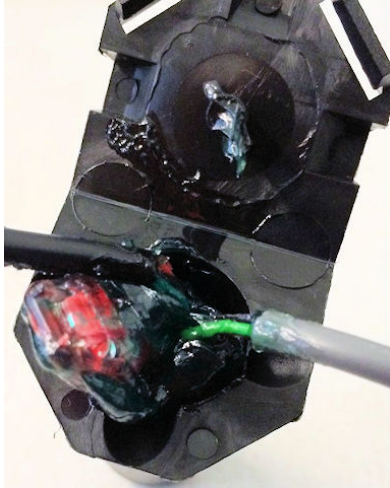

Figure 41 – Splice Tube
1. Take all three connected Scotchloks and push into the splice tube until fully encapsulated by the silicone grease. See Figure 41